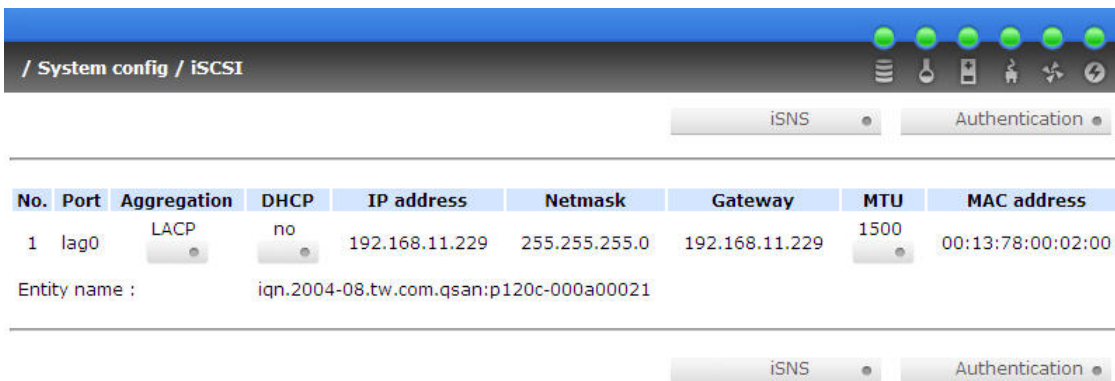

Figure E.12
- Select “Trunking”. If LACP is needed, please see Figure E.12.